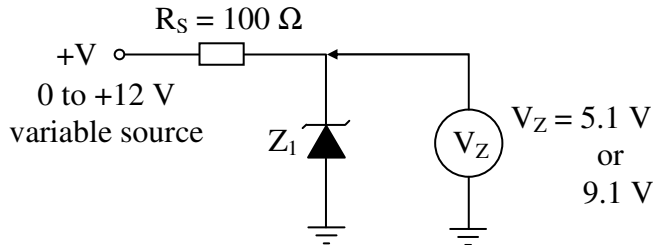

Fig. 4.1 Testing a Zener diode
1. Construct the circuit shown in Fig. 4.1.